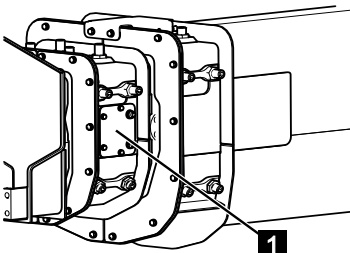

Fig. 255
3. Open the maintenance flaps (Fig.255/1) on both sides.